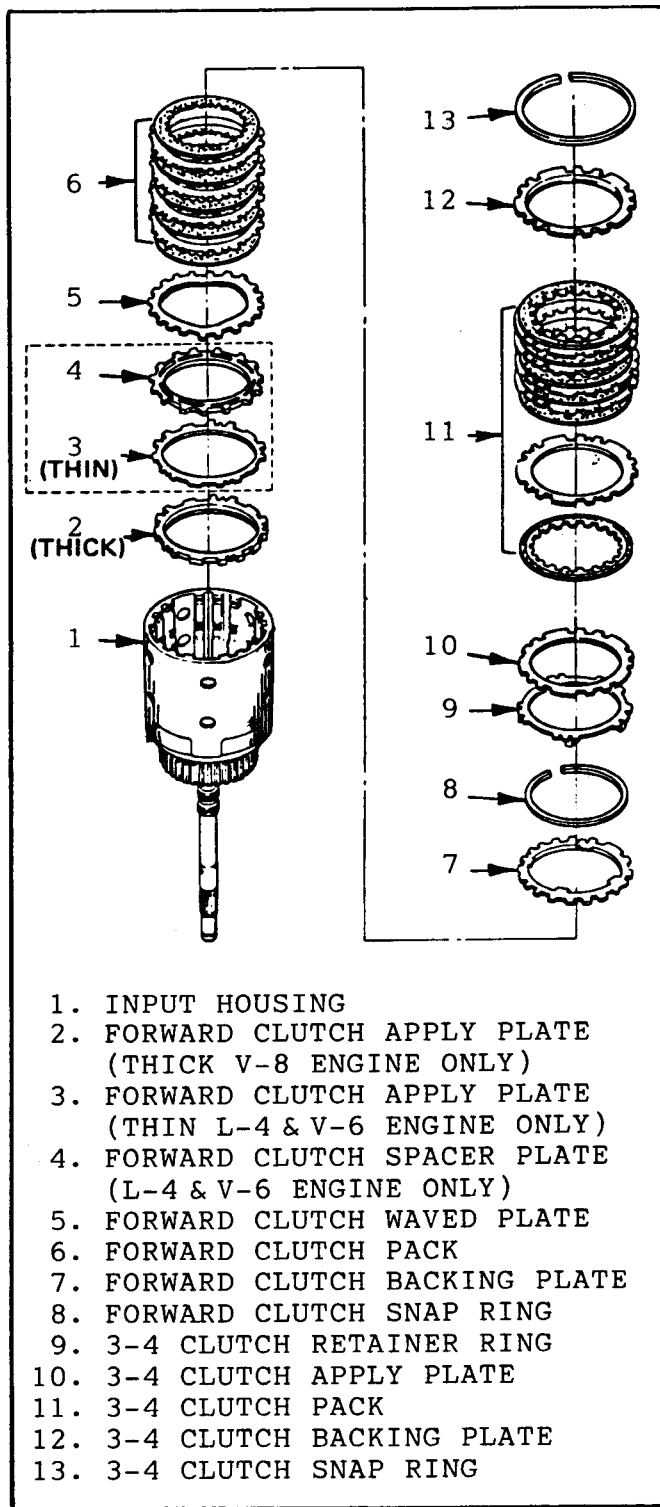

Figure 87
- Install the 3-4 clutch retainer ring (Figure 87). Be sure that each tab on the retainer is on the outside of the legs of the 3-4 clutch piston. This retainer is used to keep the legs of the 3-4 clutch piston from spreading under load.